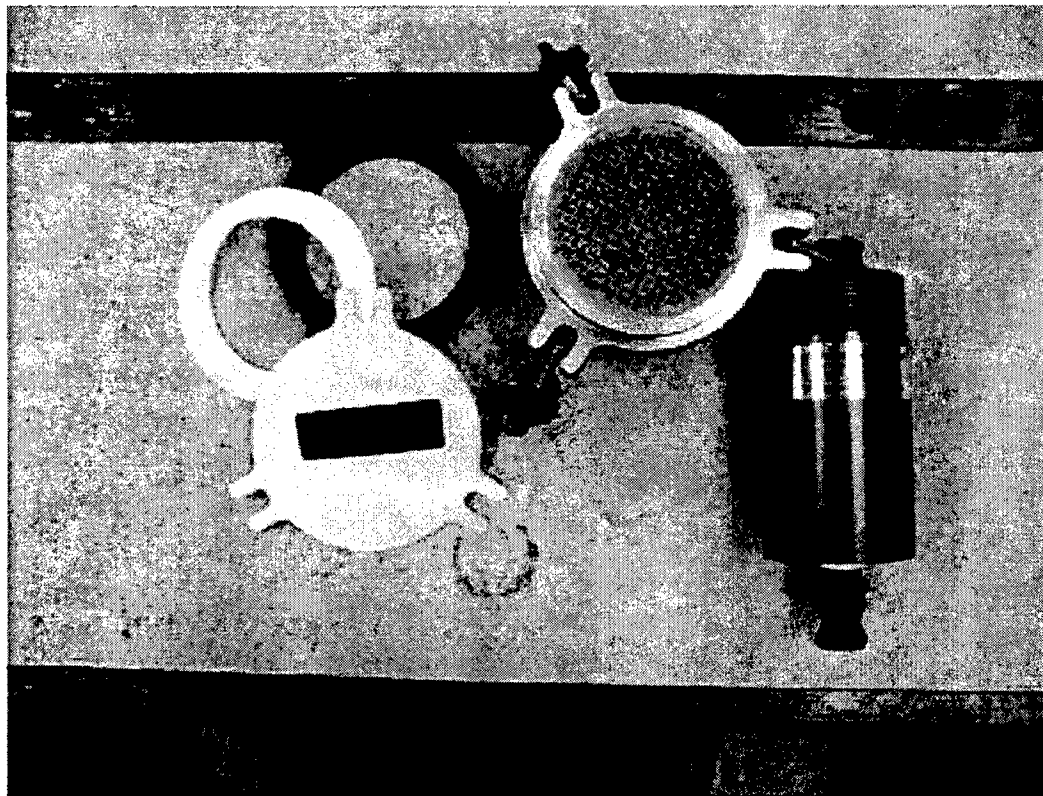

Figure 6-5-2. Disassembled sample module ready to be rinsed with Hexane.
1. Disassemble the sample module as shown in Figure 6-5-2